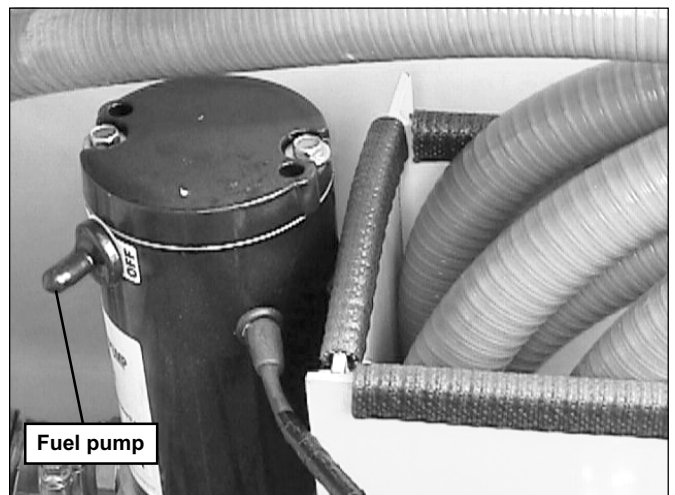

FIGURE 4.15C
- c. Locate the auxilliary fuel pump switch inside the storage box access door. Place the switch in the "ON" position. See Figure 4.15C. Place pump switch in the "OFF" position when fuel tank is full.